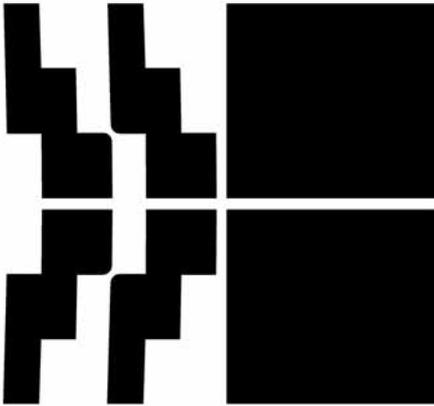

Fig. 1 - The median lines of the targets form a single straight line
- 6 - Use knob (13) to move the targets until their projections are in contact in the view. Check that the median lines of the targets are perfectly aligned with respect to each other so as to form a single straight line (see Fig. 1).